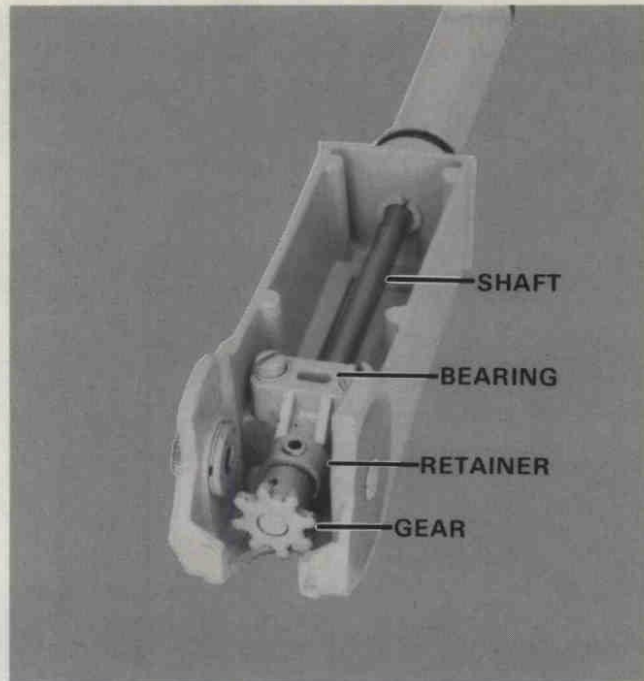

Figure 9. Assembling Steering Handle.
- C. Slide shaft assembly (shaft, steering handle bearing, retainer, gear) into handle. Figure 9.